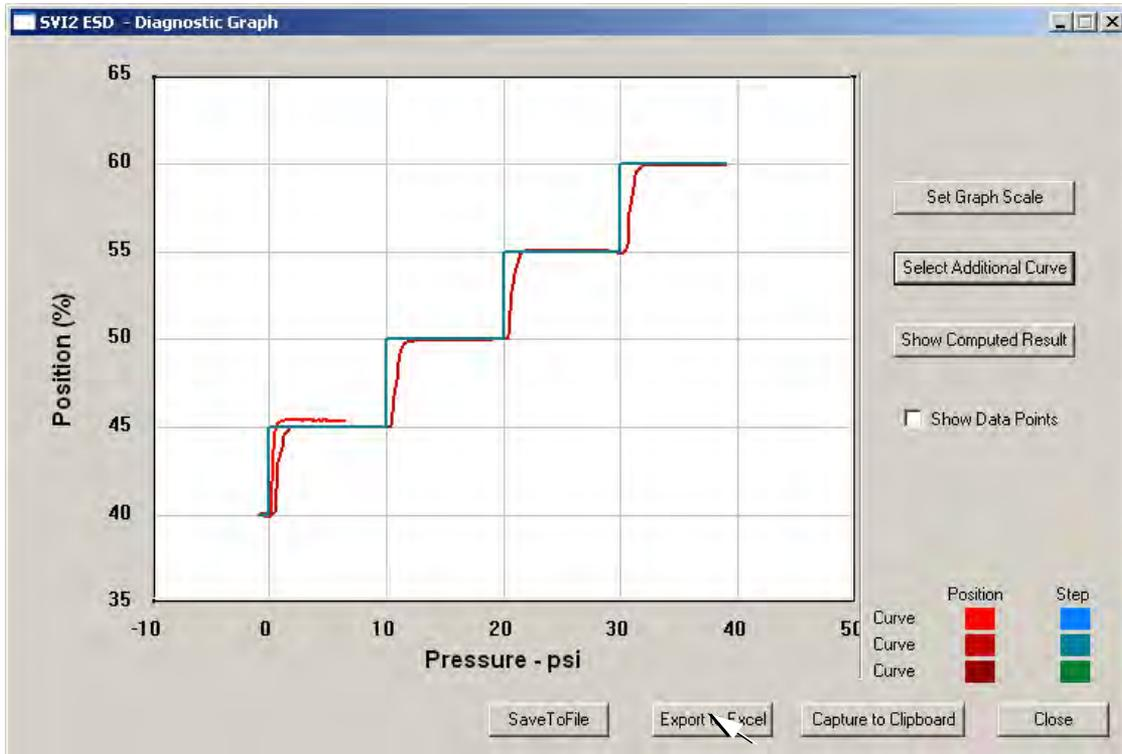

Figure 158 Selecting Export to Excel
- Click **Export to Excel** (Figure 158).